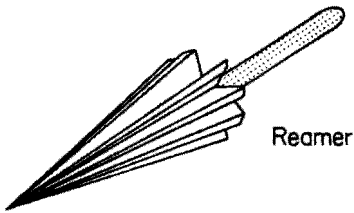

Fig. 14.42
*Reaming tool* (Fig. 14.42). For removing burrs from the inside edge of the conduit.